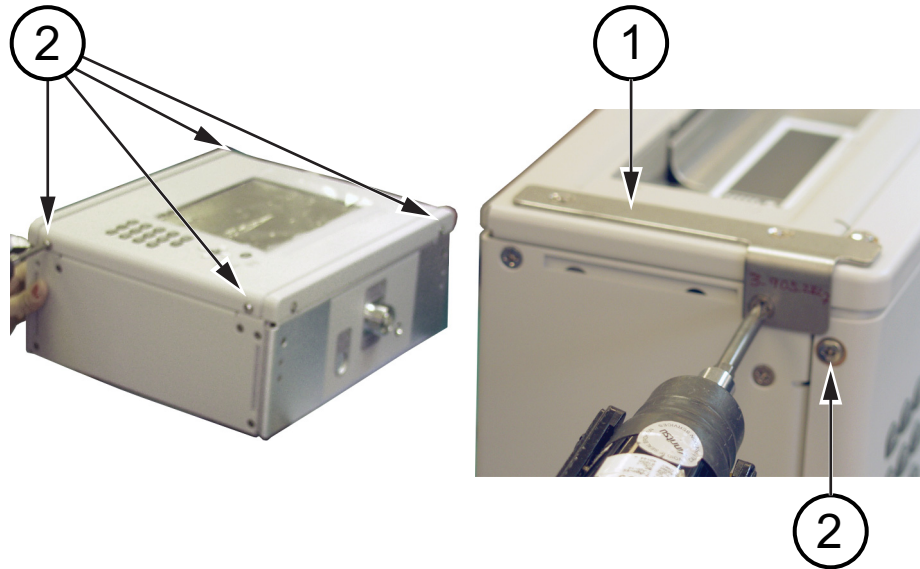

Figure 5-20. Remove the Front Panel Screws
6. Remove the corner brackets from the bottom of the instrument (see item 1 in Figure 5-20). Temporarily return 2 screws to hold the bottom panel in place. The corner brackets are secured with 3 screws each, size M4, 12 mm, flat head. Reassembly torque is 1.5 N · m (13 lbf · in).
7. Remove the 8 screws retaining the front panel, 2 screws from each corner (see item 2 in Figure 5-20). The screws are size M4, 10 mm, pan head. Reassembly torque is 0.7 N · m (6 lbf · in).